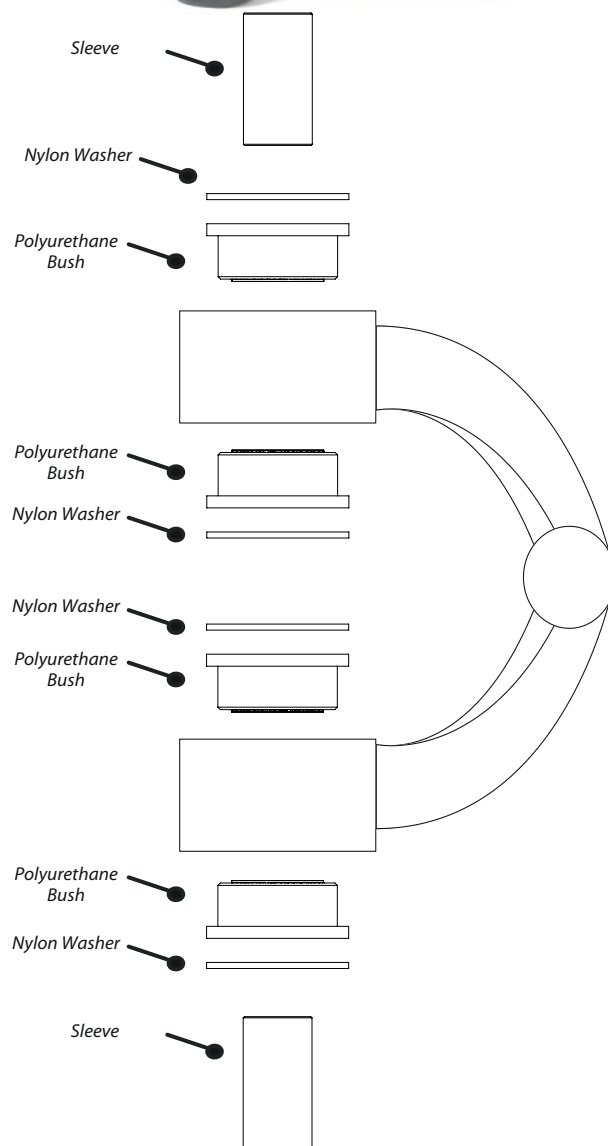

Figure 1
4. Push the Polyurethane bushes into place in the wishbone bores (Figure 1).
6. Push the sleeves into the bushes (Figure 1).
7. Using a small amount of grease, attach the nylon washers around the metal sleeves at each end of each bush (Figure 1).